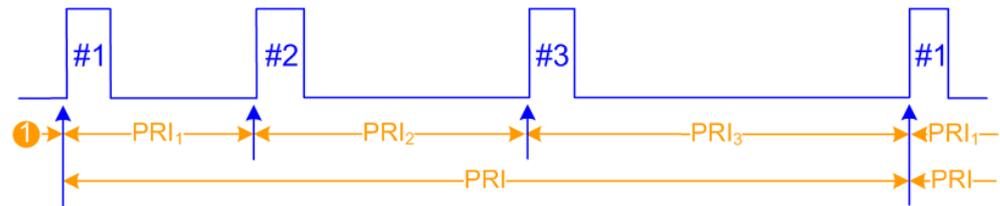

Figure 8-2: Example of an IPM effect: Staggered PRI
Staggered PRI is a transmission method based on pulse trains with constant pulse width (PW) and varying PRI. The principle of staggered PRI is illustrated on Figure 8-2
As illustrated in Figure 8-2, within a pulse train group each successive pulse uses a different PRI; the pulse train group is slewing.